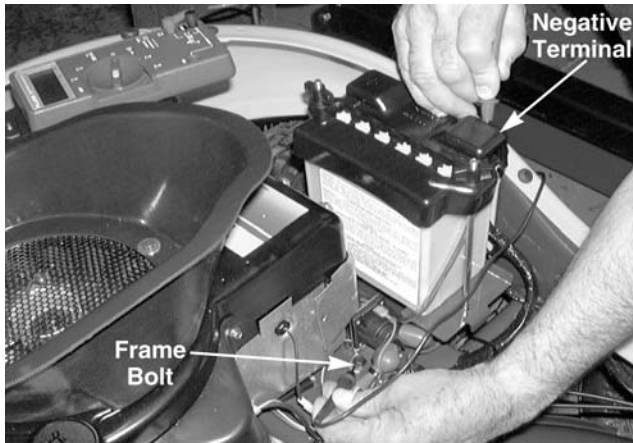

**Figure 8-71.**
2. Place the multimeter in the OHM'S mode until instructed to change modes. See Figure 8-71.